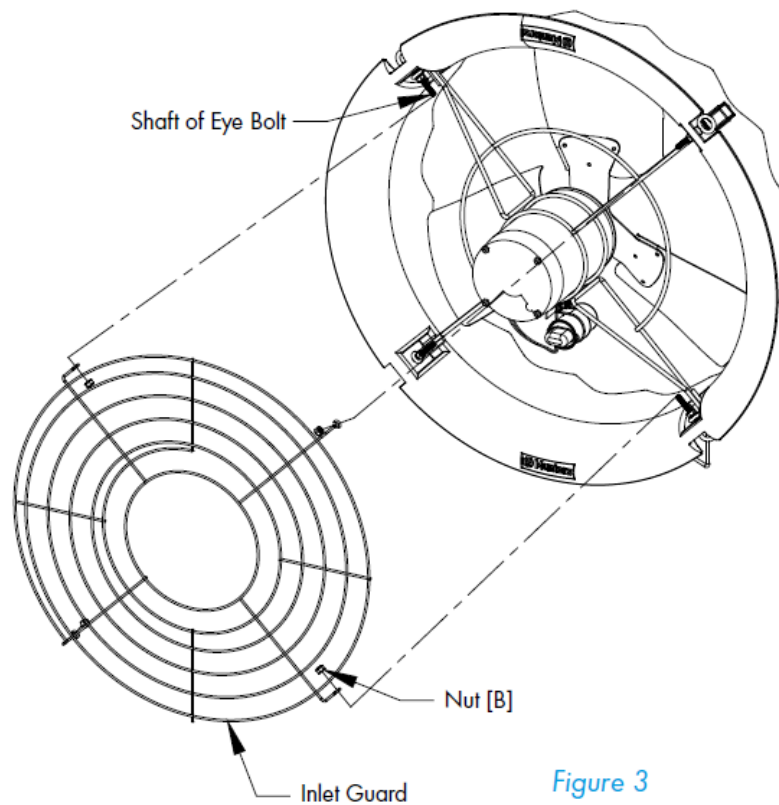

Figure 3
Step 3: The Inlet Guard is the one with the large inner hole to go over the motor. With the eyelets on the guard pointing into the fan slip the eyelets over the shaft of the Eye Bolts and fasten using (4) Nuts [B]. See Figure 3.